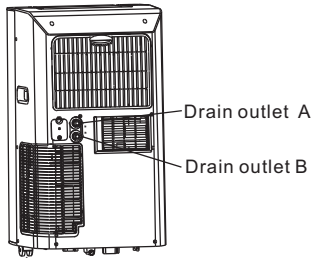

Fig.21
- During Dehumidifying modes, remove the drain plug A from the back of the unit(Fig.21), install the drain connector(5/8" universal female mender) with 3/4" hose(locally purchased).
- During Heating mode, remove the drain plug B from the back of the unit(Fig.21), install the drain connector (5/8" universal female mender) with 3/4" hose(locally purchased). Make sure the drain outlet A is plugged.